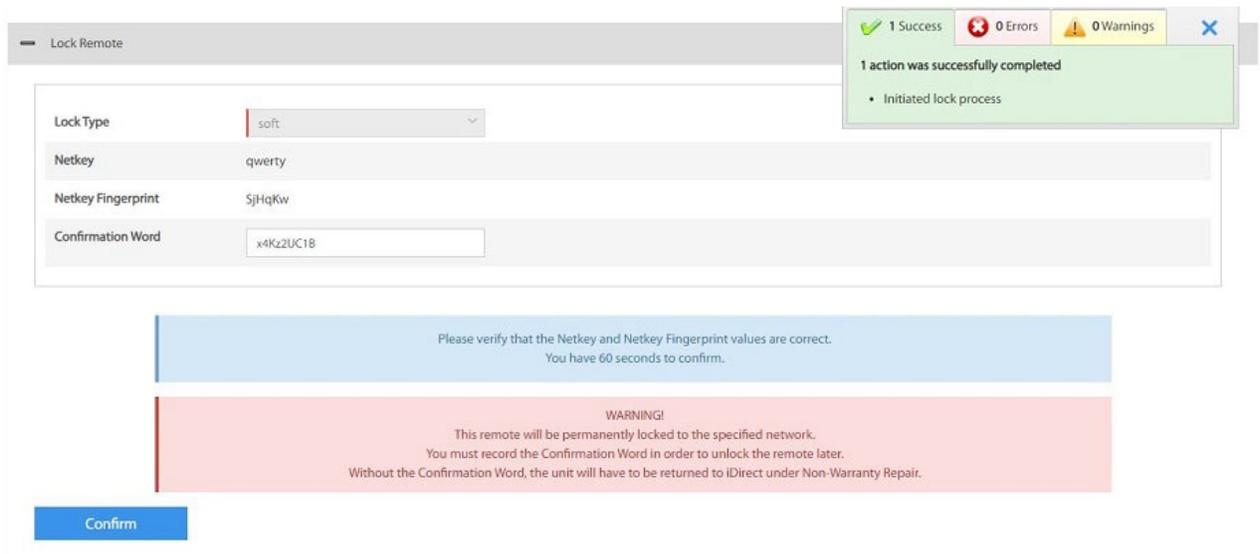

Figure B-4. Warning at Page Bottom
- a. Review the warning at the page bottom (see Figure B-4).